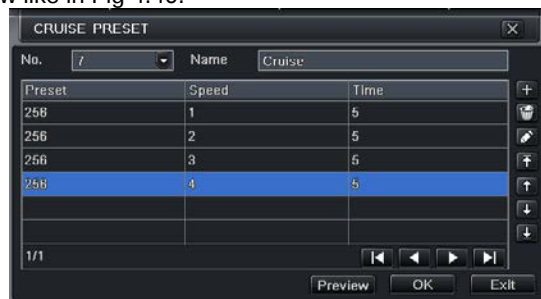

Fig 4.40 Cruise Set - Modify Cruise Line
a) Click Add button to add cruise line in the list box (max 8 cruise line can be added). Select a cruise line and click Setup button to see a window like in Fig 4.40.